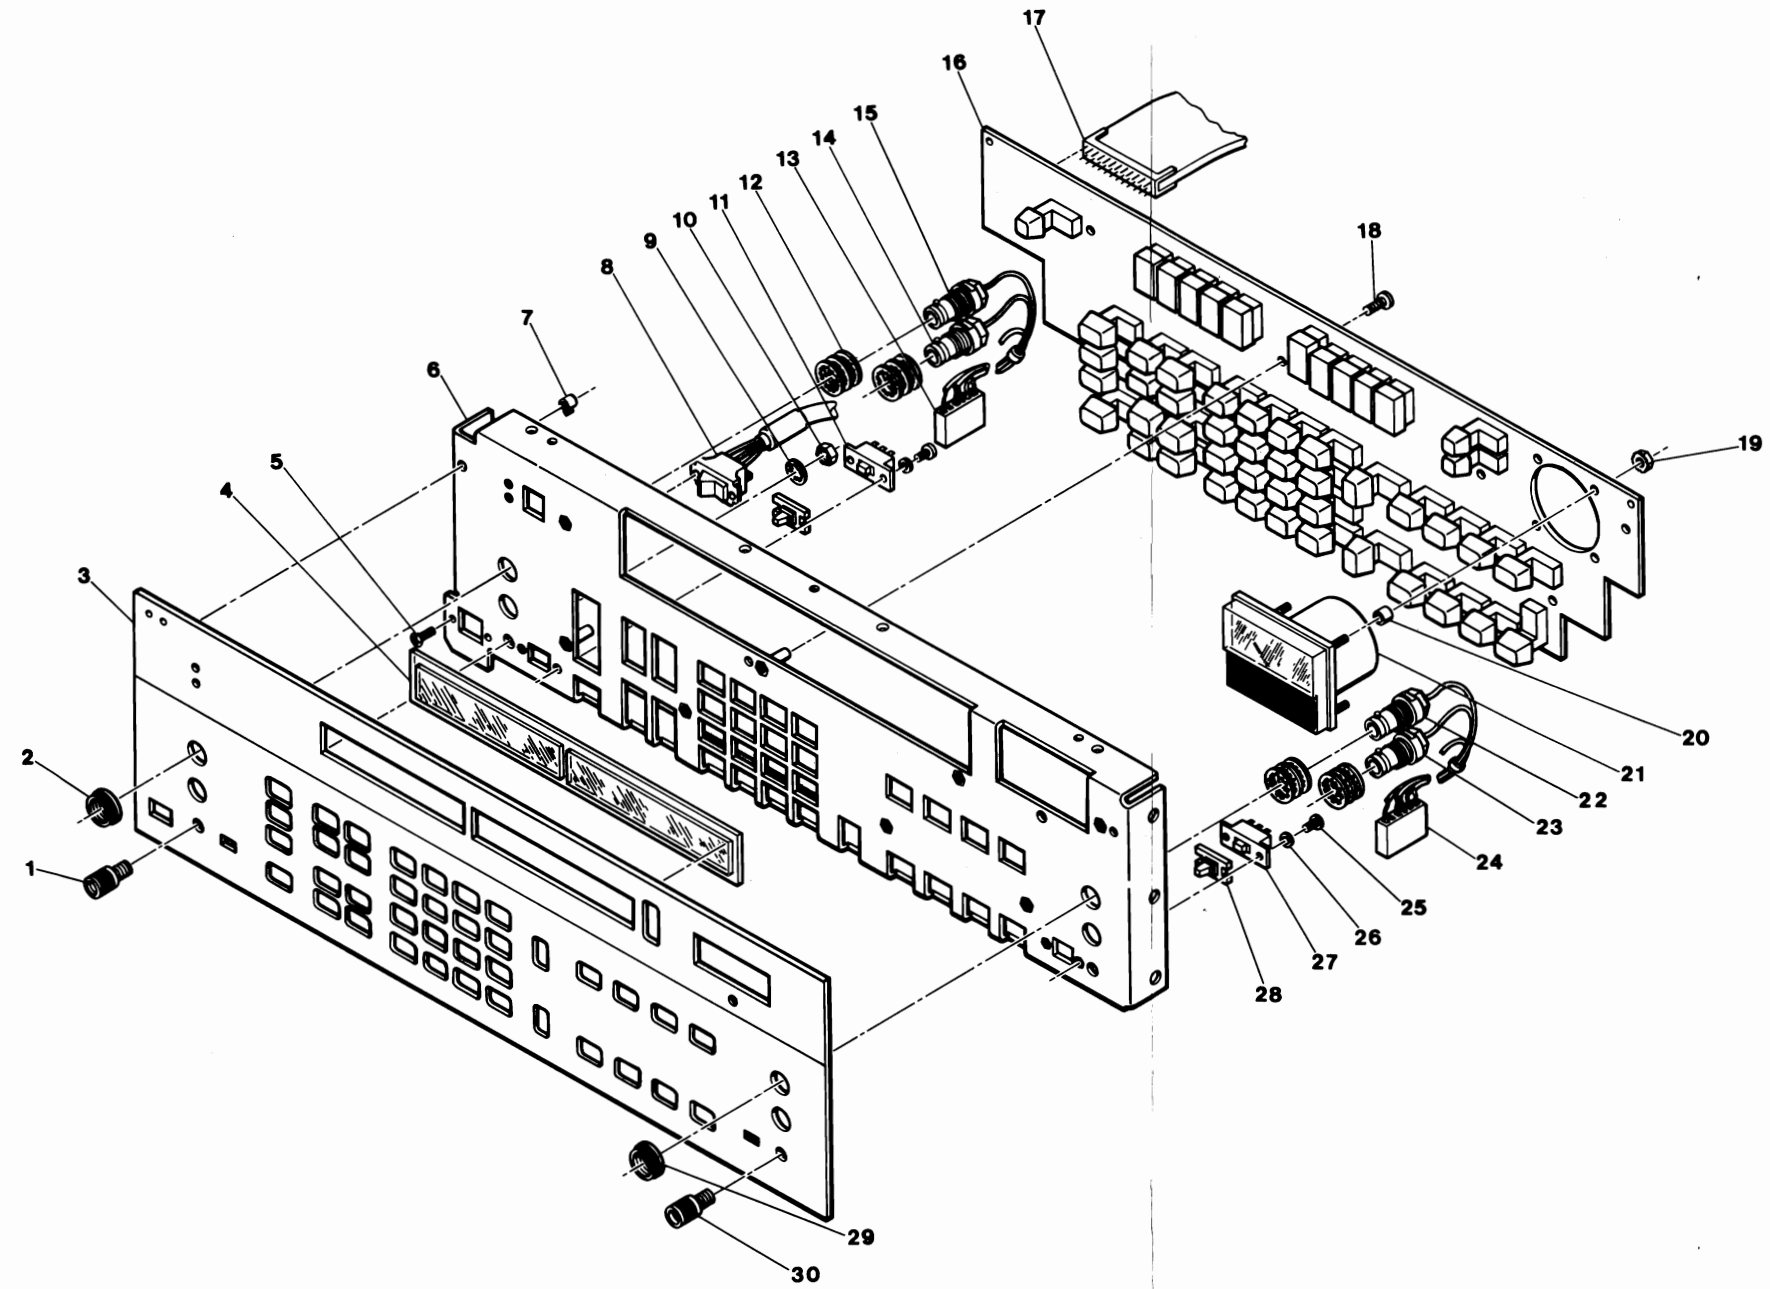

Figure 8-125. Front-Panel Illustrated Parts Breakdown
3. Remove the front-panel assembly. The circuit board should be held in place by the circuit board. Refer to Figure 8-125.